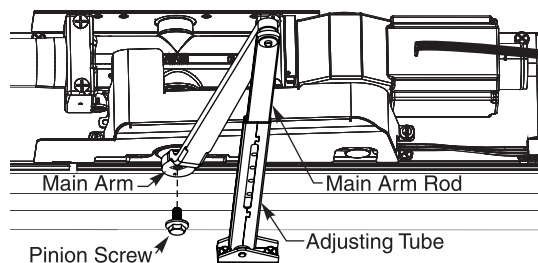

Figure 16 6021/6031 Arms Shown
1. Place square of main arm onto closer pinion. (Figure 16)
2. Attach main arm to pinion with pinion screw and tighten with 7/16" wrench. (Figure 16)